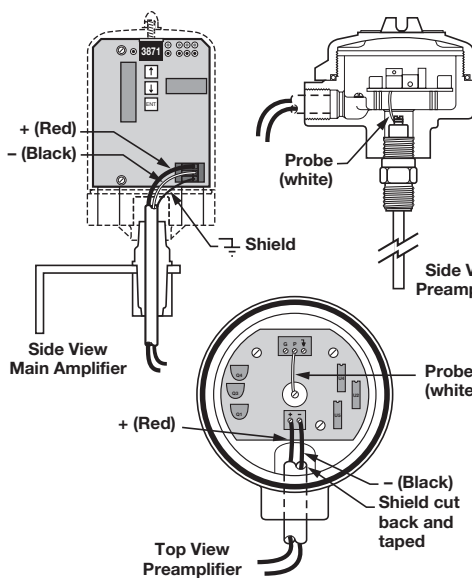

Figure 11
2. Attach white wire from the probe to the connection on the preamplifier – see Figure 11.
3. Connect the red lead to the positive (+) terminal on the amplifier. Refer to Figure 11 or 12.